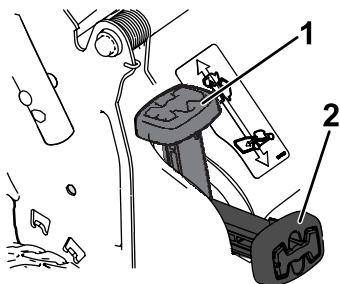

Figure 13
- **To bag the grass and leaf clippings**, press the button on the bag-on-demand lever and move the lever forward until the button on the lever pops up (Figure 13).